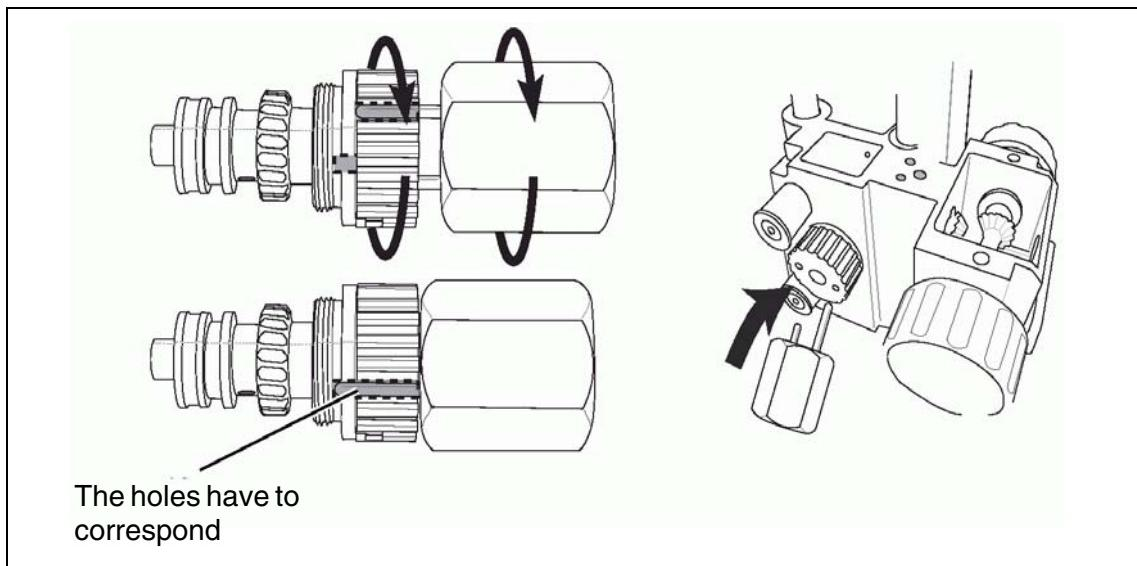

Fig. 4
- To loosen the compression mechanism, insert the compression mechanism tool into one of the holes on the side of the compression mechanism. Turn the tool around until it slides fully in (Fig. 4).
- Insert the compression mechanism tool into one of the holes on the side of the compression mechanism and turn the tool around until it slides fully in (Fig. 4).